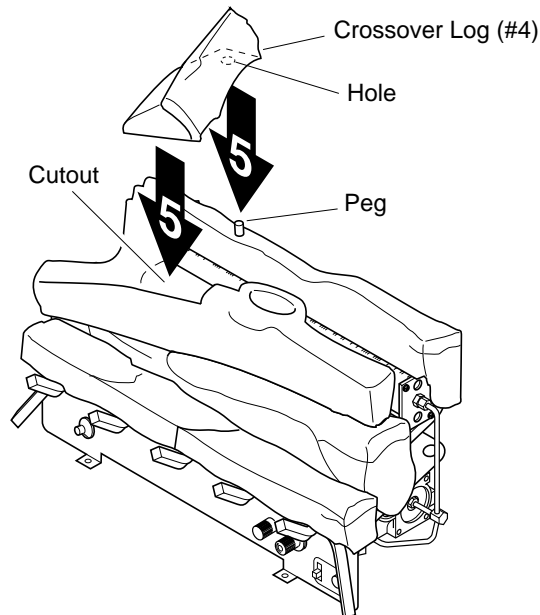

Figure 20 - Installing Crossover Log (#5)
- Place the crossover log (#5) on the back log and the top middle log. Make sure the peg on the rear log is in the hole in the bottom of the crossover log. The crossover log should fit in the cutout of the top middle log (see Figure 20).